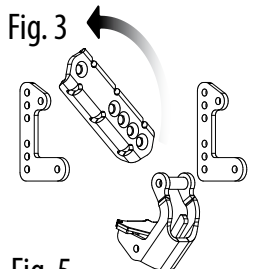

Fig. 4
- Re-assemble using the same three 3/8"-16 X 4" Hex Head Bolts (7a), 3/8" Flat washers (7b), 3/8"-16 Lock Nuts (7c), and included Bottom Mount Side Straps (6c) as shown (See Fig.4,5).